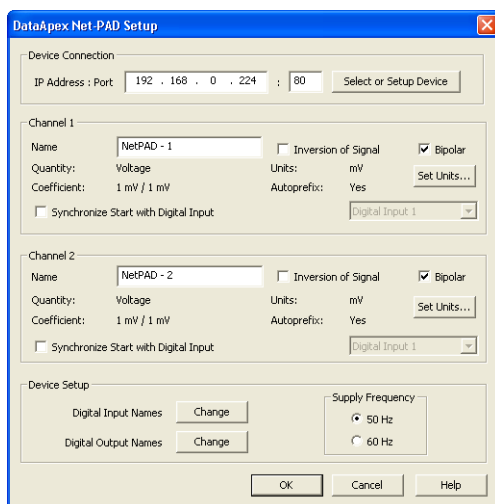

Fig 14: DataApex Net-PAD Setup dialog
- In dialog described in the **Fig 14** on pg **18**. use the *Select or Setup Device* button.